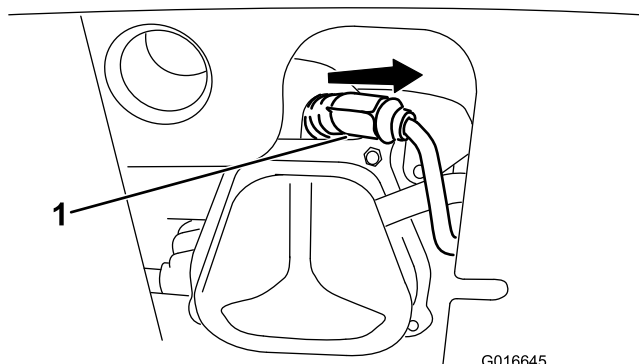

Figure 55
1. Remove the boot (Figure 55).